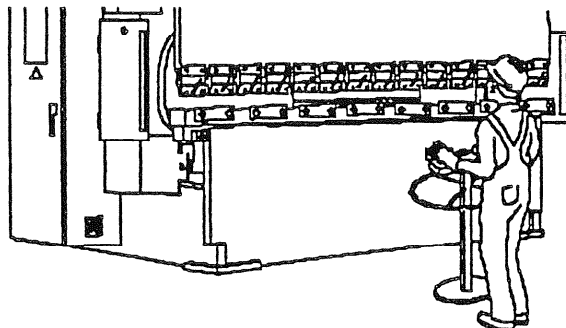

Figure 2.12
- When bending small parts: if your machine is not equipped with a light guard (option), select Cycle 3 or Cycle 4, and use the two-hand control console (Fig. 2.12). If this is not possible, use pliers or any other tool or accessory that lets you keep your hands at a safe distance from the punch/die area.